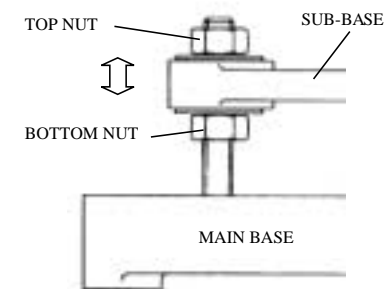

Figure 3: The Sub-base
- Slacken the nuts above and below the sub base. See Figure 3.